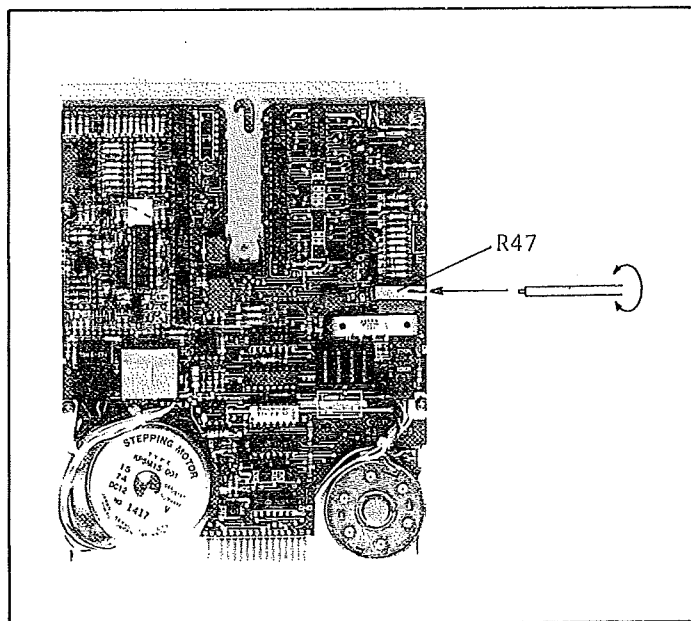

Figure 5-28. R47 Location.
6. Adjust R47 (see Figure 5-28 for the location) until the index timing is within 200 ± 1 msec, monitoring the timing on the CRT. Use an insulated screwdriver.